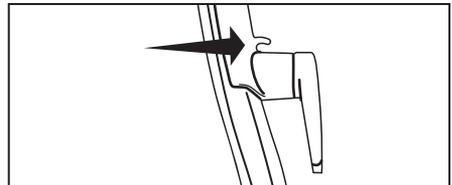

Fig. 3
- Secure the cord under the cord guide above upper cord hook (Fig. 3).